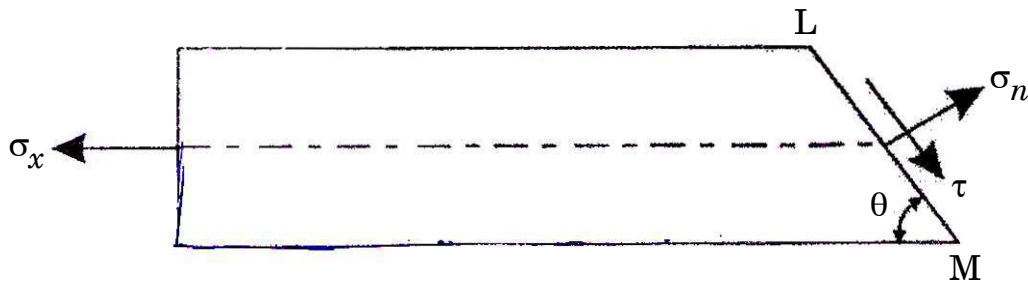

Fig. 6
- (b) A prismatic bar carrying an axial tensile stress σ_x is cut by an oblique section LM, as shown in Fig. 6. If the normal and shear stresses on this section are 90 MN/m^2 and 30 MN/m^2 respectively, find the value of σ_x and the angle θ defining the aspect of section LM. [8]